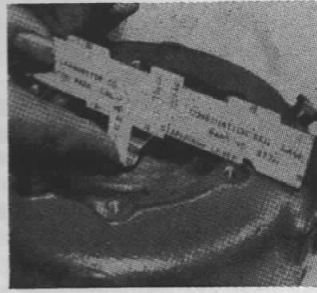
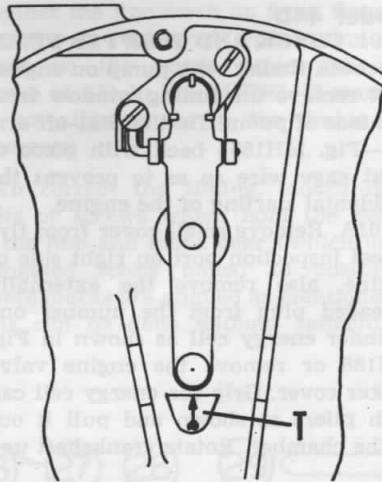

Fig. MH166—Using Ensign gage No. 8276 to measure dimension (X) on a model W regulator. Dimension (X) is shown in Fig. MH164.
Fig. MH167—Ensign model R regulator. Port boss (T), which is marked with the arrow, is used for the purpose of setting the low-pressure valve lever.
91. Before reassembling the unit note dimension (X) which is measured from the face on the high pressure side of the casting to the inside of the groove in the valve lever when valve is held firmly shut as shown in Fig. MH166. If dimension (X), which can be measured with Ensign gage No. 8276 or with a depth rule is more or less than ½ inch bend the lever until this setting is obtained. A boss or post (T)—Fig. MH167) is machined and marked with an arrow to assist in setting the lever. Be sure to center the lever on the arrow before tightening the screws holding the valve block. The top of the lever should be flush with the top of the boss or post (T).